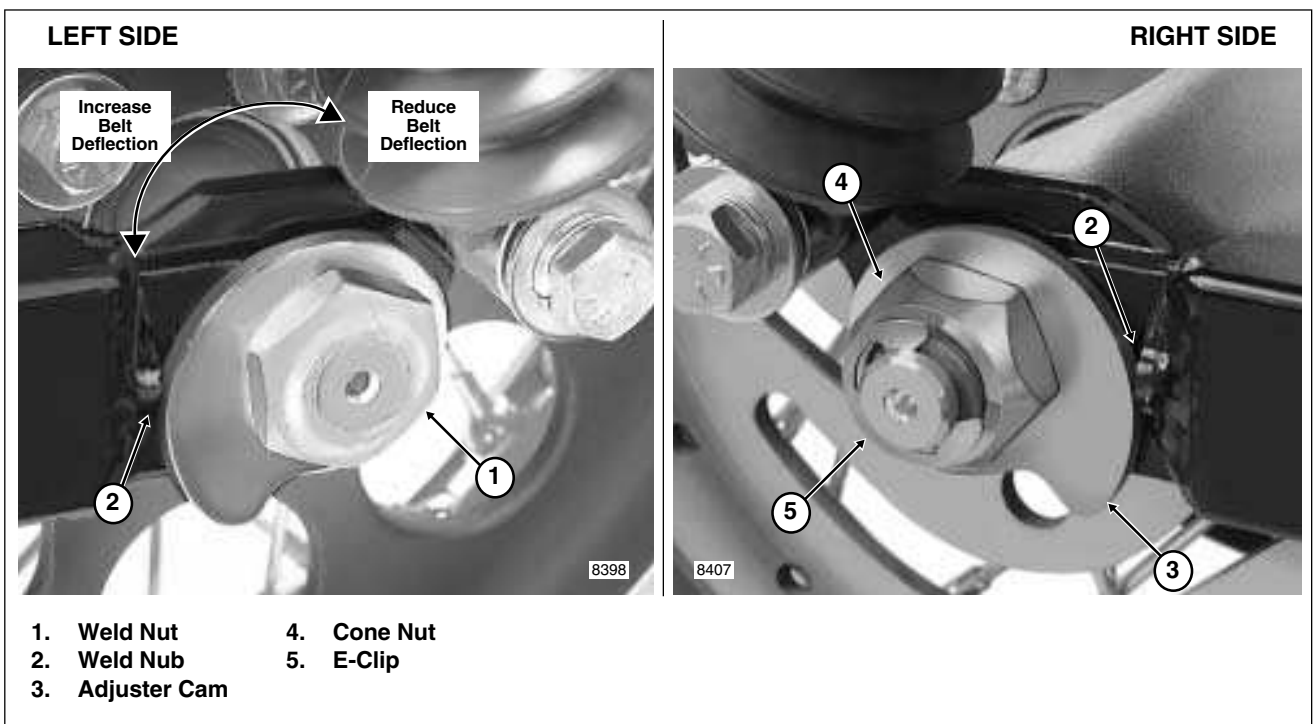

Figure 1-16. Move Rear Wheel Forward Until Adjuster Cams Just Contact Weld Nubs
- c. Loosen cone nut, and then snug to 15-20 ft-lbs (20-27 Nm). See Figure 1-16.
- c. Push wheel forward slightly so that adjuster cam just contacts weld nub on both sides of rear swing-arm. See Figure 1-16.